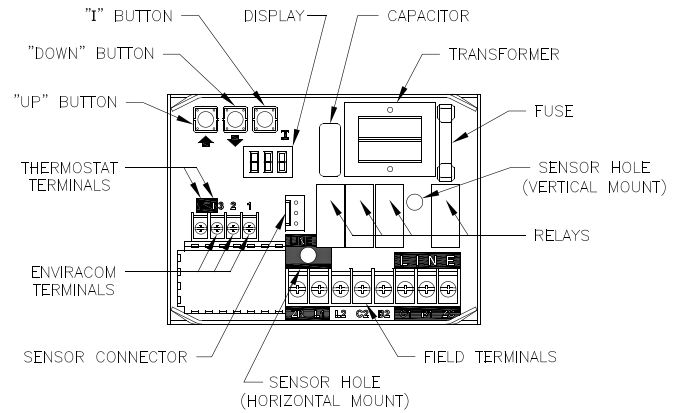

Figure 30: Intelligent Oil Boiler Control
- b. The boiler's sequence of operation is shown as Status Codes on Boiler Control display. See Table 7 and Figure 30.
- d. If the thermostat is not satisfied and the Operating Setpoint (SP) is reached the system circulator will continue to operate and the burner will stop. When the boiler water temperature drops below the setpoint less the differential setting the burner will restart.
- g. boiler temperature is less than Operating Setpoint (SP), the boiler control energizes the oil primary to turn on the burner without circulator pre-purge delay.
- g. On burner start, if the CAD cell does not see flame within approximately 15 seconds, primary control will shut down the burner and enter into a lockout mode. A lockout is reset by pressing the reset button located on the primary control. If the flame is lost while the burner is firing, the primary control shuts down the burner, enters a 60 second recycle delay, and repeats the ignition sequence. If after three (3) trials for ignition, flame is not detected, primary control will enter into restricted mode. Restricted mode is reset by holding down the reset button for 15 seconds.